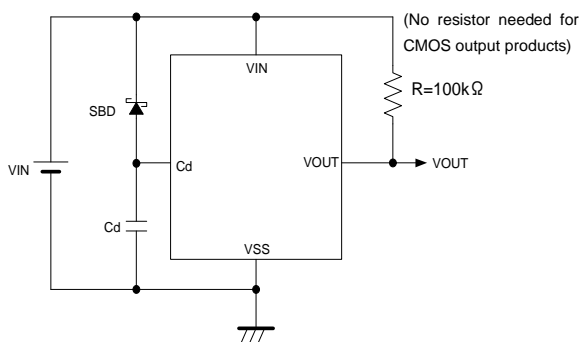

Figure 3: Circuit example with the delay capacitance pin (Cd) connected to a schottky barrier diode
5. When there is a possibility of which the input pin voltage falls rapidly (e.g.: 6.0V to 0V) at release operation with the delay capacitance pin (Cd) connected to a capacitor, use a schottky barrier diode connected between the  $V_{IN}$  pin and the Cd pin as the Figure 3 shown below.